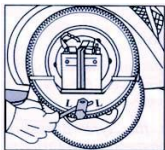

Fig. 36
- 2.1.2 The wheel is fixed by three nuts. Unscrew the nuts using the box spanner from the tool kit, remove the three elastic washers and remove the wheel (Fig.36).